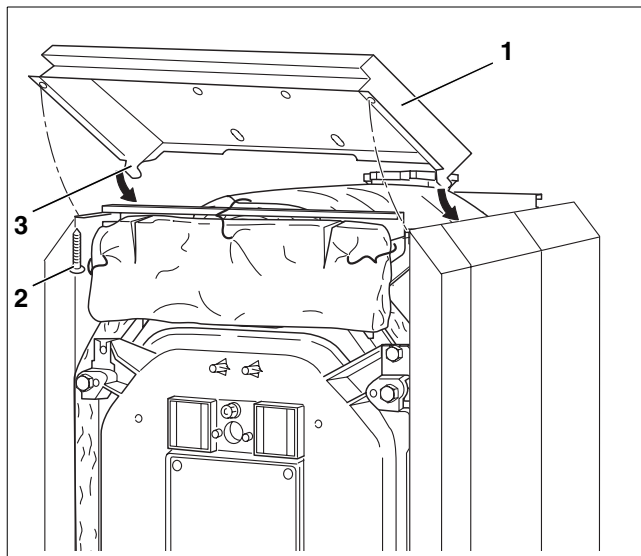

Fig. 51 Assembly – Fitting front cover
- On the front cover (Fig. 51, **ref. 1**) are two hooks (Fig. 51, **ref. 3**) and these should be hooked into the front side panels.
- Use two self-tapping screws (Fig. 51, **ref. 2**) to screw the front cover to the longitudinal rails from below.